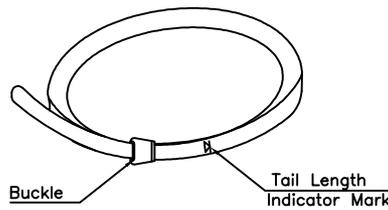

Figure-3
- B. Pull on Band until Mark (▷) is within approximately .250 inch (6.4mm) of Buckle Slot (figure-3). The Band may be tightened further if desired.